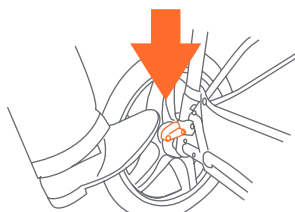

Fig. 15
15) • To engage brakes, apply light downward pressure to the brake lever located on each rear wheel. The stroller may require slight forward or rearward movement in order to line up the teeth on the brake with each wheel brake cluster (Fig. 15).